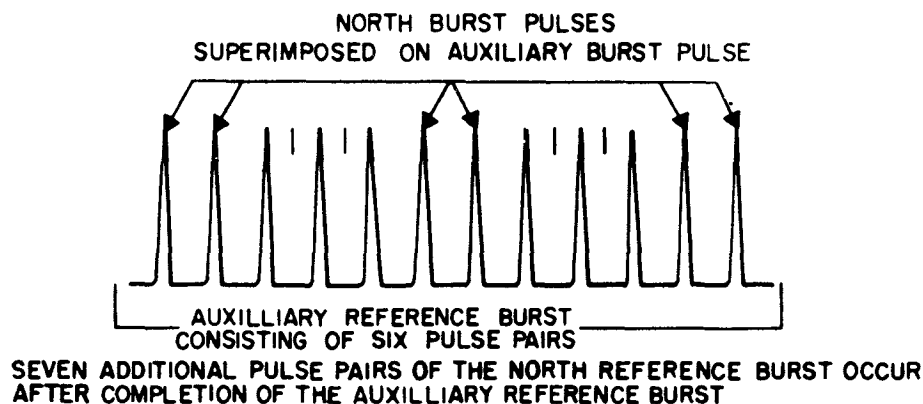

Figure 3-19. Composite Waveform, North and Auxiliary Reference Burst
TRIGGER AMP and SWEEP STAB. controls of oscilloscope may have to be adjusted carefully to obtain waveform shown in figure 3-19.
Step 2. Check oscilloscope; the presentation shown in figure 3-19 should appear. Normal indication, as shown in figure 3-19, is six auxiliary reference burst pulse pairs (heavy pulses) and 12 north reference burst pulse pairs (light pulses). Five of the north reference pulse pairs will be superimposed on the auxiliary pulse pairs. A north pulse pair should be visible; one pulse of the pair to the left, and one pulse of the pair to the right of the fourth and ninth auxiliary pulses. Seven more north burst pulse pairs should be counted at the end of the auxiliary burst. If the requirement is not met, report the trouble to technical personnel.